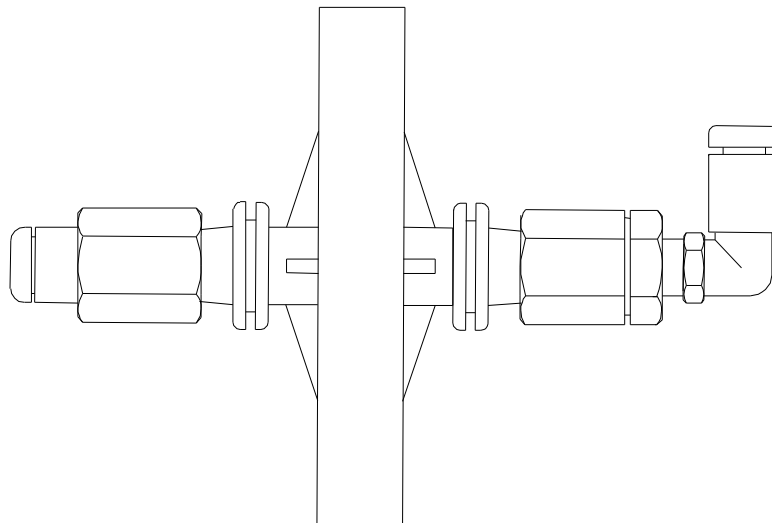

FIG 19
2. Disconnect blue tube from both sides of filter assembly (as in fig 19)